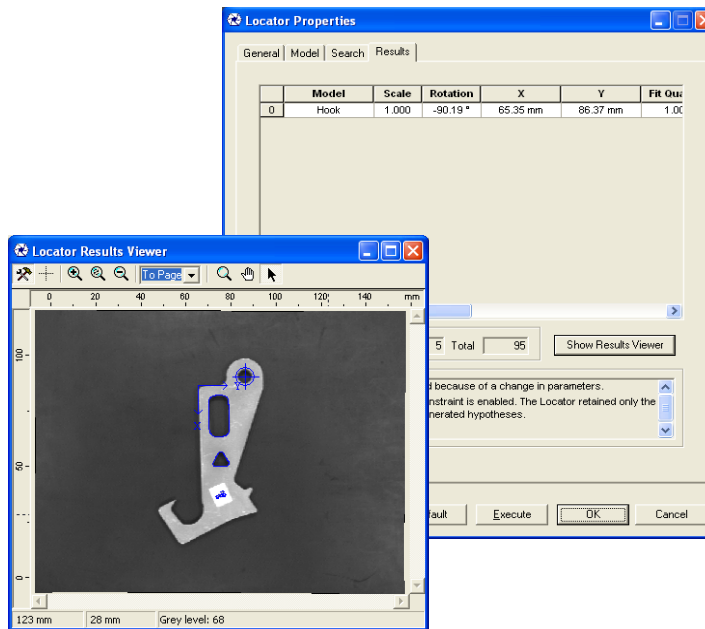

Figure 62 Results Viewer and Results Panel of the Locator Tool
4. Click **Show Results Viewer** to view the located instance superimposed on the Image, as shown in Figure 62.